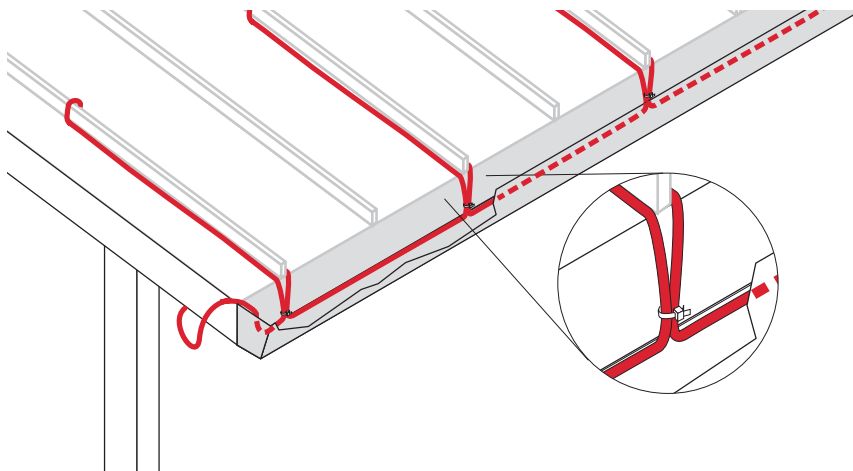

Fig. 8 Layout on a standing seam roof
For sloped standing-seam metal roofs, ice dams may form at the roof edge. To maintain a continuous path for melt water to run off, route the heating cable along the seams as shown in Fig. 8 and follow the attachment recommendations in "Step 6 Select attachment accessories and method" on page 21. Additional heating cable may be needed for gutters, downspouts, and valleys.
- Run the heating cable up one side of the seam, loop it over to the other side, and return it to the bottom of the gutter. Continue along the bottom of the gutter to the third seam and repeat the process (Fig. 8 on page 10). If the seams are more than 24 inches (60 cm) apart, trace every seam.
Note: Attachment methods are not shown in Fig. 8. For attachment methods, proceed to "Step 6 Select attachment accessories and method" on page 21.